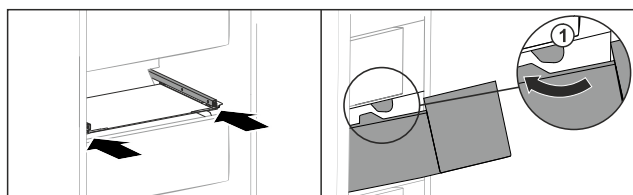

Fig. 149
- Guide drawer around the stoppers Fig. 149 (1).